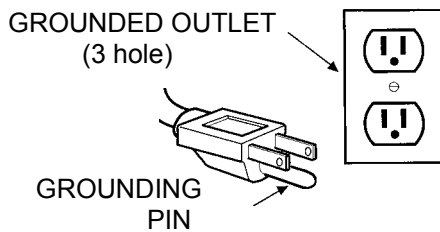

Fig. 3
5. Plug machine's power cord into grounded wall outlet on separate circuits (Figure 3). Green circuit indicator light on switch panel illuminated confirms connection to separate circuit.